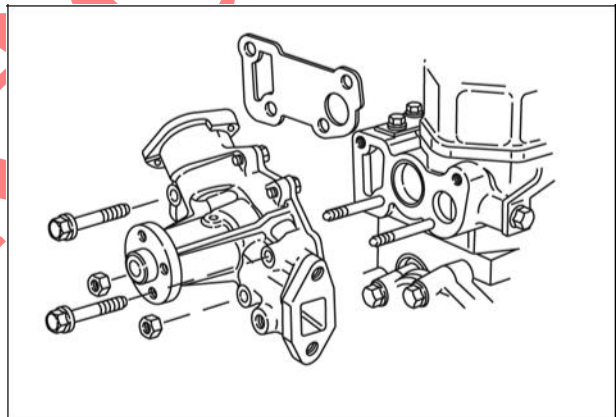

Figure 10
1. Install water pump with new gasket (Figure 10). Torque screws to values listed in Section 14 - Specifications.